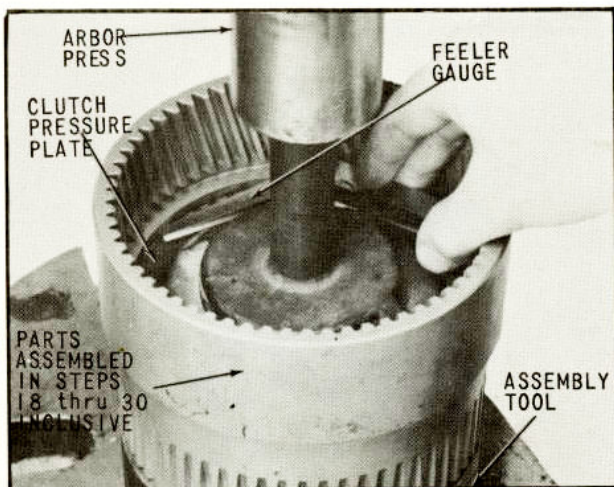

Fig. 39 Measuring Gap for Selective Snap Ring
31. Place the forward clutch and ring gear assembly steps (18) thru (30) inclusive on an arbor press with the assembly supported on the face of the ring gear as shown in (Figure 39).
32. Place a suitable assembly tool in the arbor press to apply force on the clutch pressure plate compressing the clutch plates and clutch pressure plate against the clutch snap ring. The gap between the clutch pressure plate and the shoulder of the snap ring groove in the ring gear can then be measured with a feeler gauge as shown in (Fig. 39).